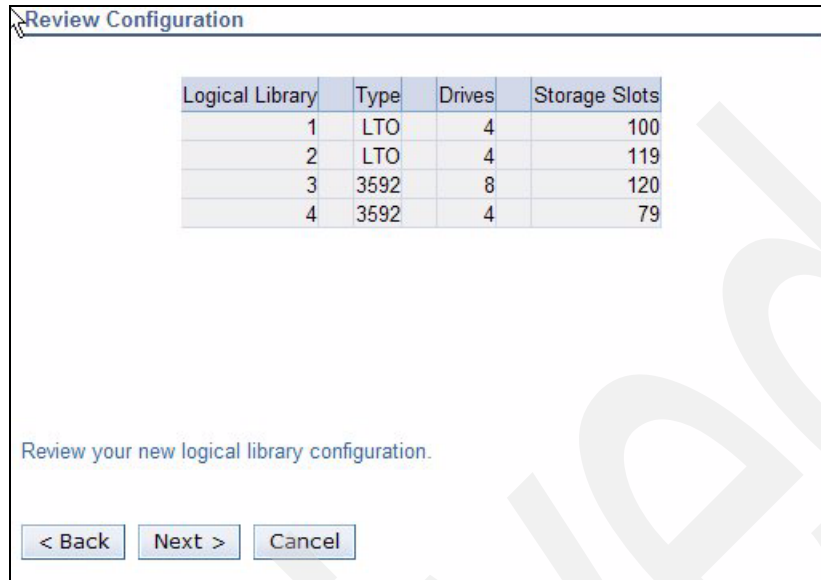

Figure 2-36 Review configuration
10. A new window shows the selections. The configuration can now be reviewed before being applied; see Figure 2-36.